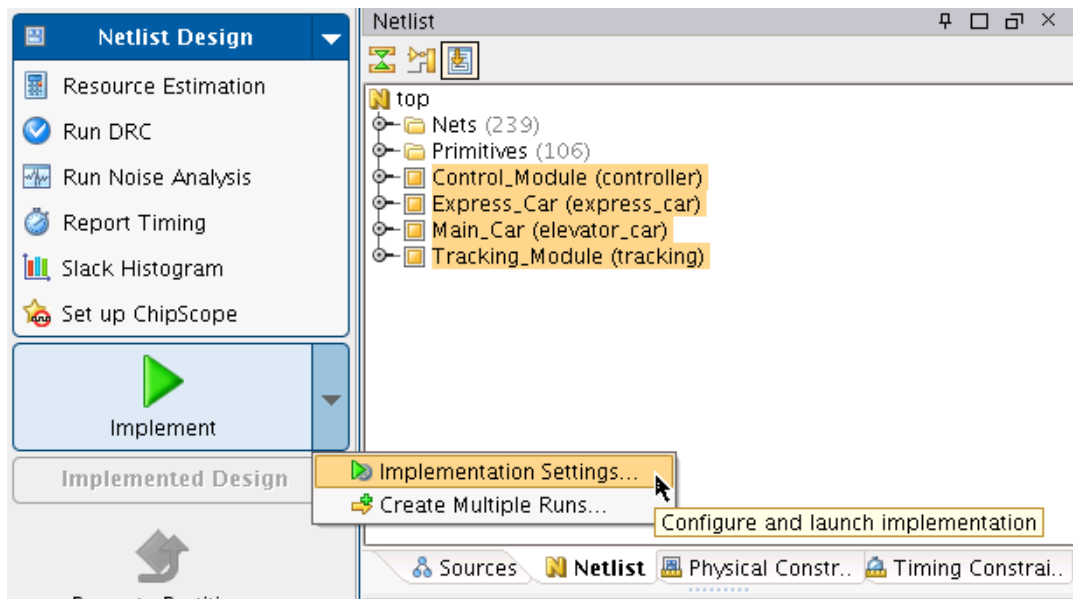

Figure 11: Implementation Settings
5. From the Implement button pull-down, select **Implementation Settings**, as shown in Figure 11.